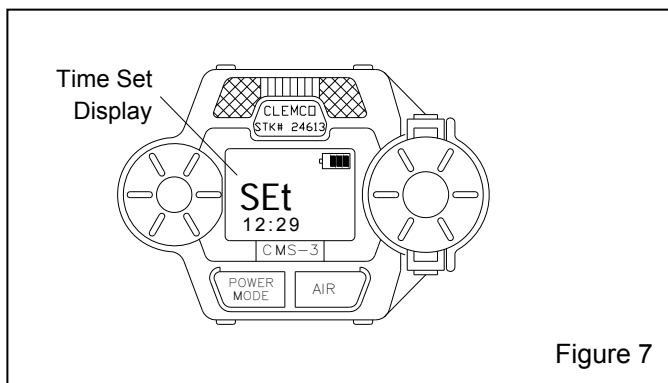

Figure 7
**3.7.2** Press and hold the Air button, then press and hold the POWER/MODE button to put the monitor into Time Adjustment Mode. Release the buttons when the word “SEt” appears on the LCD as noted in Figure 7. Below “SEt”, the time will be displayed and the hour in the time will be flashing.